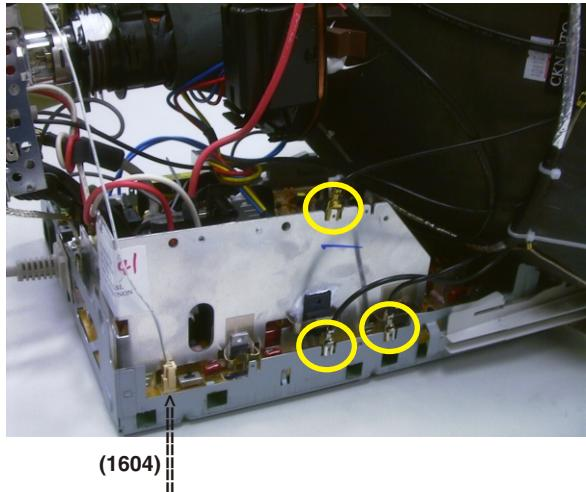

Fig. 9
- Disconnect connector "1604" and all the wires as shown in Fig. 9..